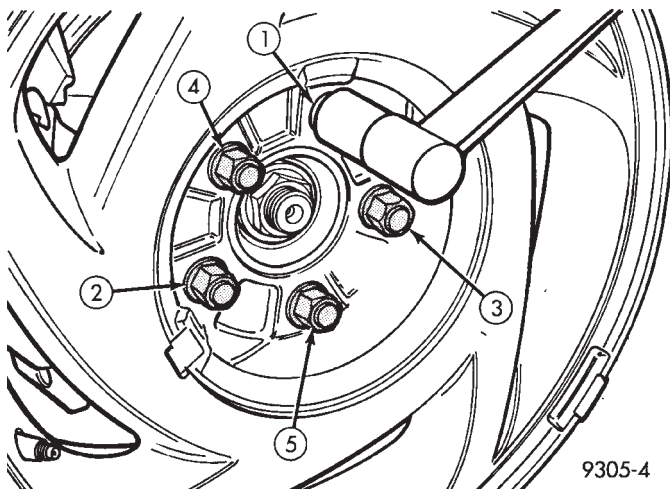

Fig. 15 Tightening Wheel Nuts
(4) Install rear wheel and tire assembly back on vehicle. Install the wheel and tire assembly. Tighten the wheel mounting stud nuts in proper sequence (Fig. 15) until all nuts are torqued to half specification. Then repeat the tightening sequence to the full specified torque of 129 N•m (95 ft. lbs.).